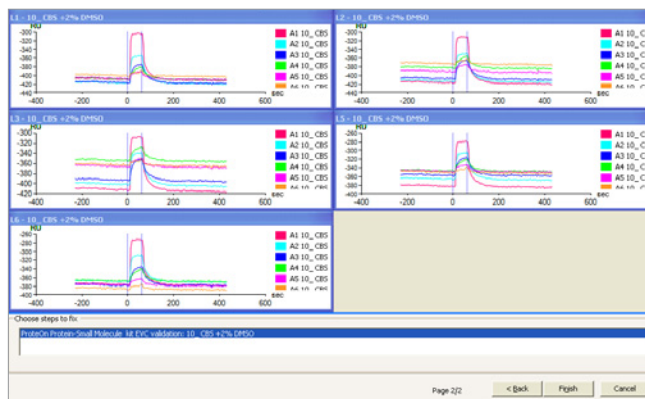

Fig. 8. Choosing the steps for applying EV calibration.
- In the second wizard step, select all the analyte steps for which you want to apply the EV correction. Click Finish to apply the reference and display the corrected data (Figure 8).